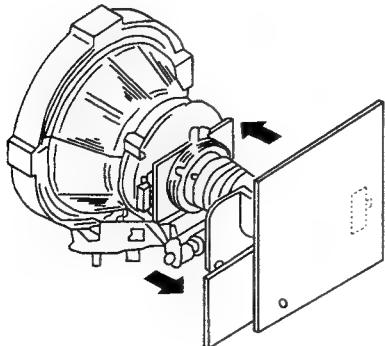

Fig. 3-1
- Move the deflection yoke forward and adjust with the purity control so that the red is at the center and the blue and the green take up equally sized areas on each side. (See Fig. 3-1 - 3-3)
- Move the deflection yoke forward and adjust so that the entire screen becomes red. (See Fig. 3-1)